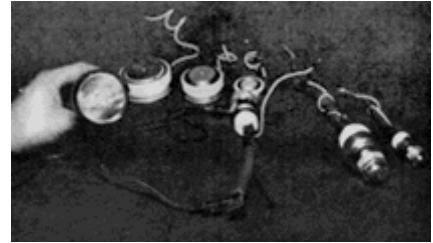

Fig. 5
4. Next, touch the gate (white) lead to the SCR anode (stud). The bulb should light and stay lit, even when the gate lead is disconnected from the anode. (See Fig. 5)